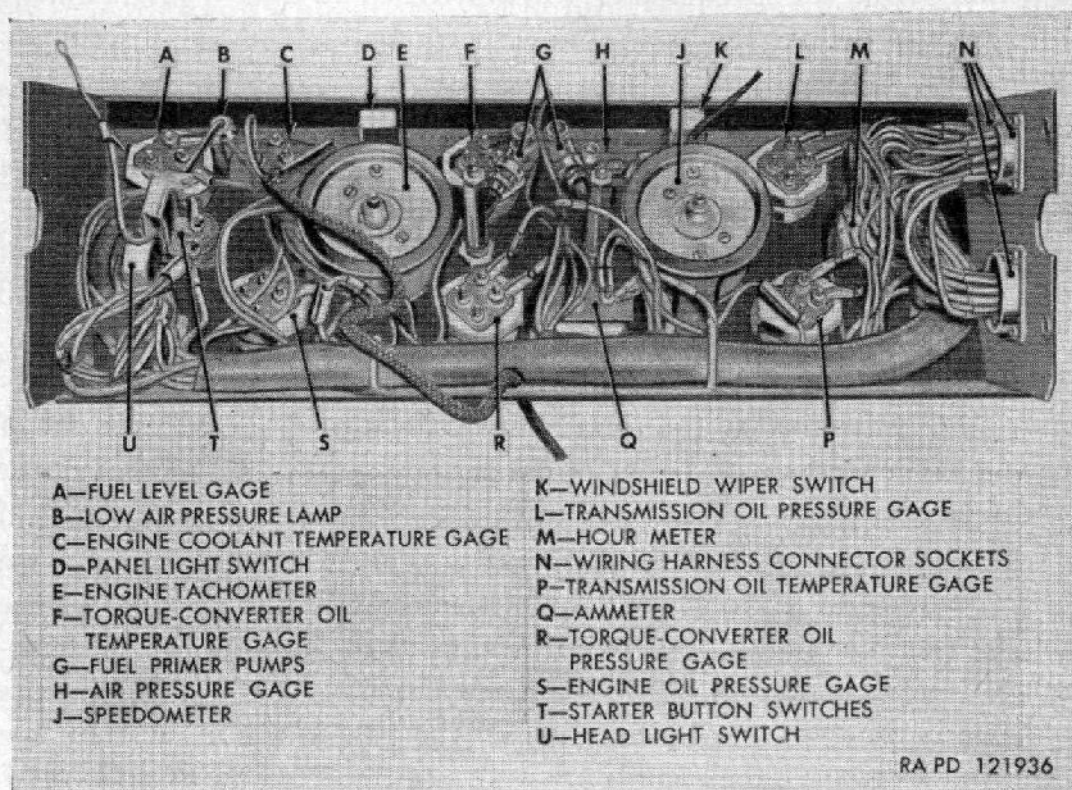

Figure 89. Right instrument panel removed.
a. Removal. To remove either instrument panel, disconnect the engine tachometer and speedometer flexible shaft assemblies. Remove the engine shut-off and choke control bracket (fig. 6) from the panel. Disconnect the four fuel primer lines (on right panel only) and air pressure lines from its unit. Disconnect the low air pressure indicator wire from terminal of gage. Disconnect the three connector wiring plugs from sockets at right side of the instrument panel (fig. 89). Remove the six cap screws that attach the instrument panel to the hull brackets. Lift the instrument panel out carefully.
a. Removal. Open the drain valve at air reservoir to release the air from reservoir (fig. 76). To prevent sparking from contact of tools with electrical terminals, unscrew the retaining nut from the connector plug under the right instrument panel and pull plug from socket. Disconnect the air line from the gage (fig. 89) and remove the nuts from the mounting bolts of U-bracket. Remove the bracket and gage from the instrument panel.
a. Removal. Reach behind the instrument panel and pull the lamp socket from the light. Turn the lamp one-eighth turn counterclockwise and pull it out from the socket (fig. 89).
a. Removal. Disconnect large wiring harness plug from connector socket under right instrument panel (fig. 89). Remove nuts from ammeter terminals, tagging each wire so the wires can be installed on the same terminal of replacement unit. Remove nuts from ammeter mounting bolts and lift off U-bracket and pull ammeter from panel (fig. 89).
a. Removal. Remove cap screw at end of ground wire and pull out the other wire connected to hour meter connector plug. Remove the three mounting screws from the meter and remove the unit from the panel (fig. 89).
a. Removal. Unscrew the retaining nut and remove flexible shaft assembly from the speedometer. Remove the two nuts from mounting bracket and remove the bracket and speedometer from the instrument panel (fig. 89).
a. Removal. Remove the nuts from the fuel gage terminals, tagging each wire so the wires can be installed on the same terminals of the replacement unit. Remove the nuts from fuel gage mounting bolts and remove the U-bracket. Remove the fuel gage from the instrument panel (fig. 89).